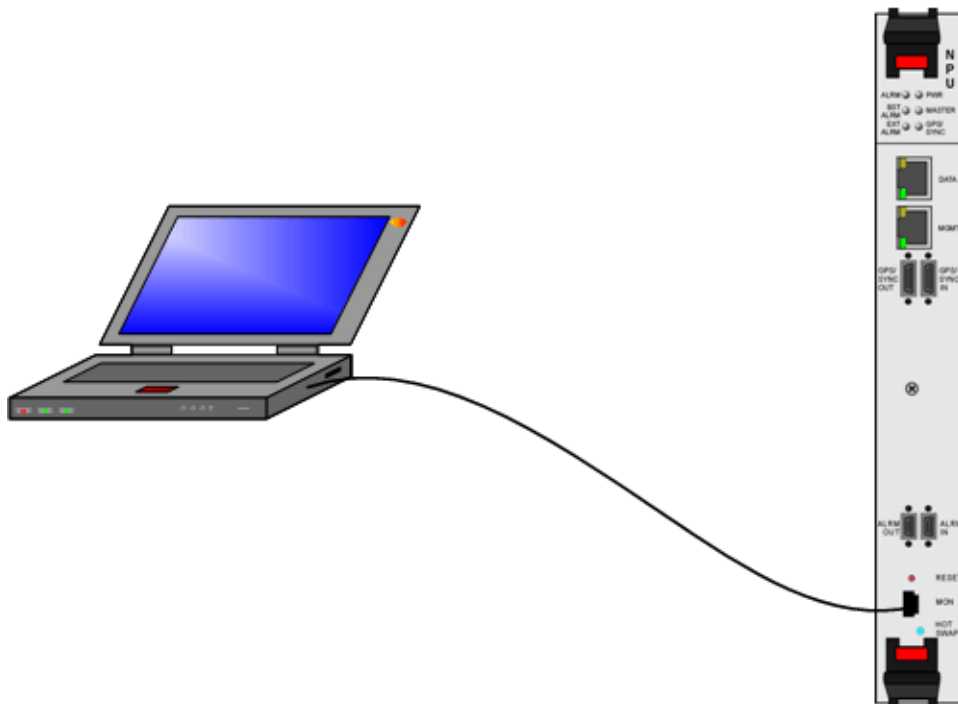

Figure 10-1: Connecting to the NPU
- 1 To define the system for the first time, use the Monitor cable to connect the MON connector of the NPU to the serial COM port of your PC (see Figure 10-1). The COM port connector of the Monitor cable is a 9-pin D-type plug [female].